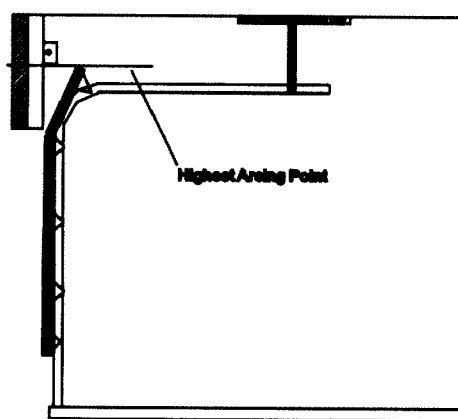
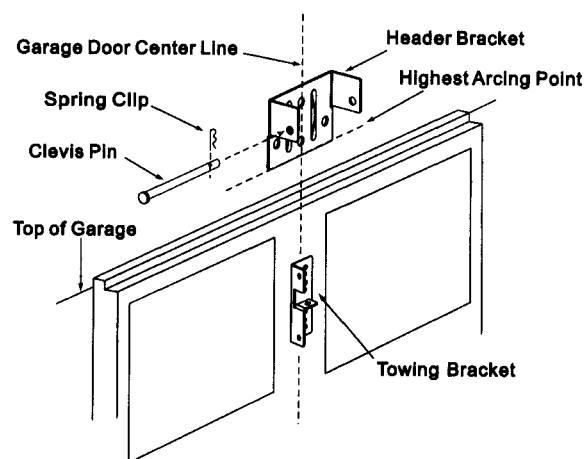

Fig 4
Fig 5
- Determine the highest arcing point of the garage door (Fig.4) and mark this as a horizontal line on the structural wall (header) above the top edge of the garage door. (Fig.5)
- Determine the Garage door Center Line and mark a vertical line on the Header above the top edge of the Garage door. (Fig.5)
- Centralize the **bottom edge** of the Header Bracket on the intersection of the 2 marked lines and mark the location of at least 2 of the Header Bracket screw holes (Fig.5) The 2 holes must **both** be either in the vertical or horizontal plane. (not one vertical and the other horizontal)
- Determine the Garage Door Center Line and affix the Towing Bracket (Fig.5) to a structural member of the garage door. Mark the location of at least 2 screw holes as far apart from each other as possible